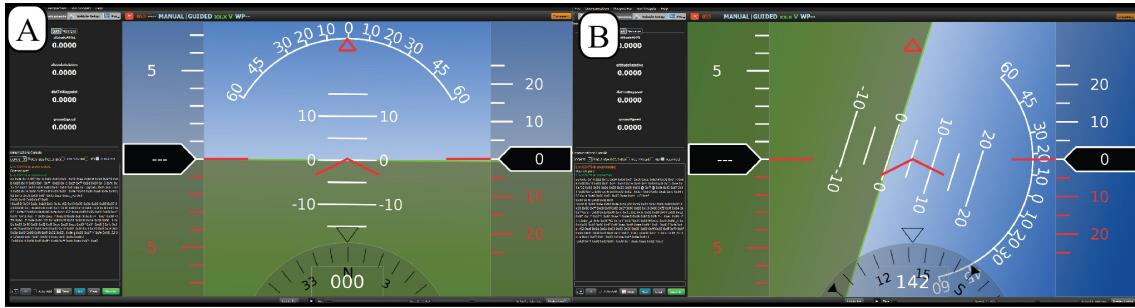

Figure 4.1: Estimation given by the gyroscopes of the MAV'RIC autopilot board. A) At start-up.
2. In QGroundControl, go in the “Instruments” tab and restart the MAV'RIC board by pressing the rest button on the board. You should see the orientation levelled as shown on Fig. 4.1.A. If you wait a little bit you can observe that the estimation is drifting (see Fig. 4.1.B). If you take the board in your hand, rotate it randomly and put it back on the table, you will see that the estimation will have changed. Why is the estimation drifting?